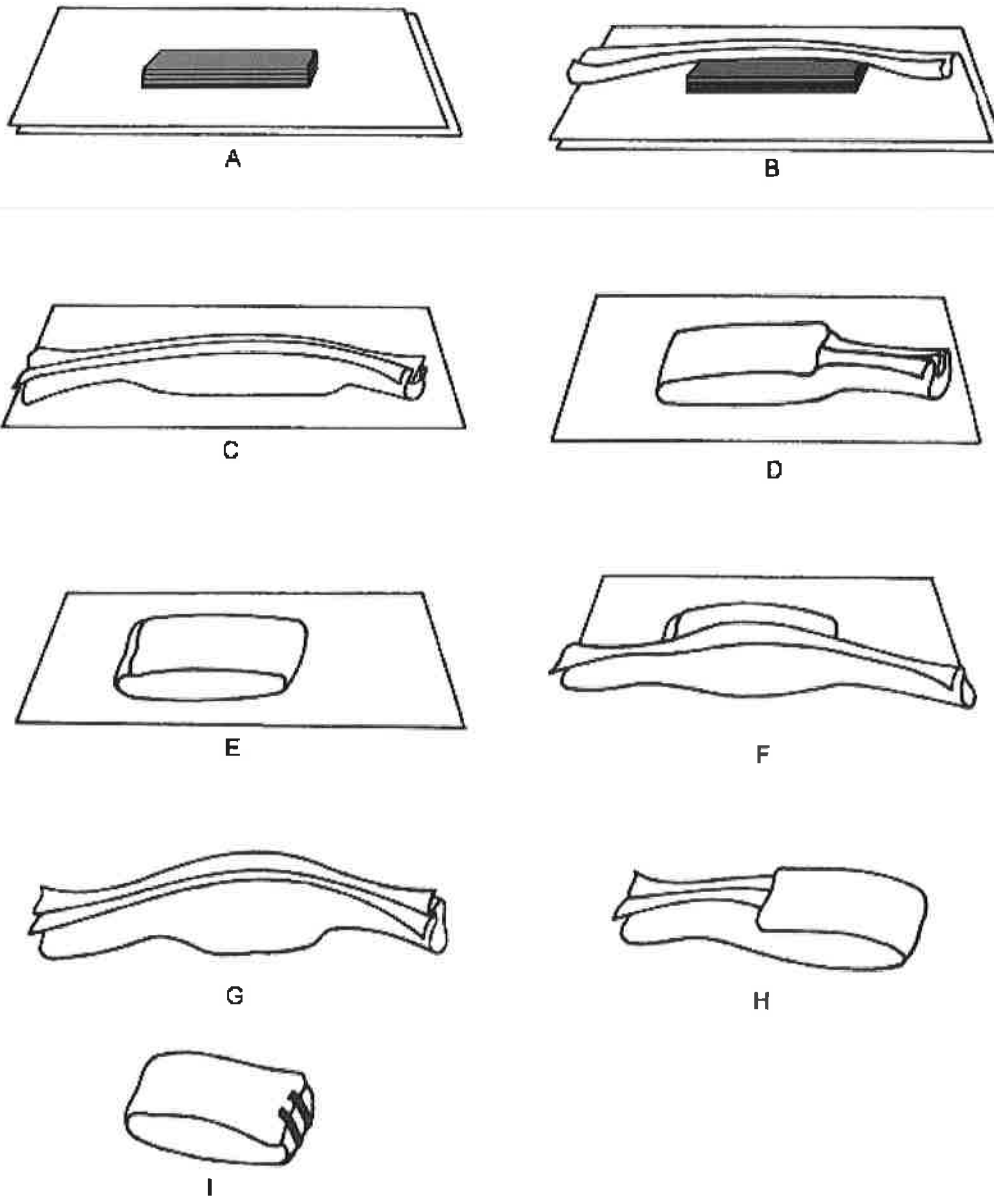

Figure 7-1: Double-wrapping: Square fold
- Wrap contents sequentially in two wrappers (refer to Figure 7-1).
- Wrap instrument tray sequentially in two wrappers (refer to Figure 7-1).